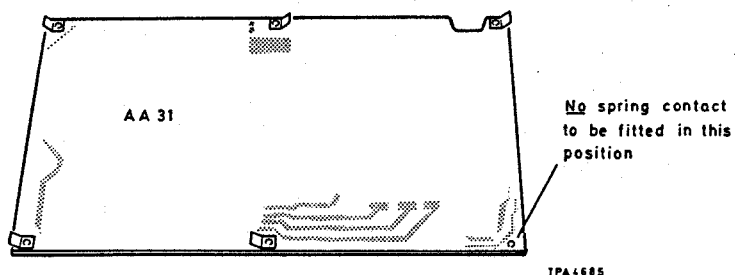

Fig. 5 Positioning of spring contacts (AA31)
16. Access to board AA11 can be gained easily by removing the instrument's outside lower cover and also AA0 box lower lid. Board AA31 underside is visible when ABO unit is removed, this is fastened by six panhead screws. Five of these hold in position spring contacts which must be replaced in the same position. Unless the spring contacts shown in Fig. 5 below are positioned correctly a risk of short circuits on the board is likely. When these are withdrawn AA31 can be raised to enable PLCJ and ribbon connector SKCL to be disconnected and the board removed. AA21 is then immediately accessible and AA23, AA24, AA25 when the cover plate held by six panhead screws is removed.